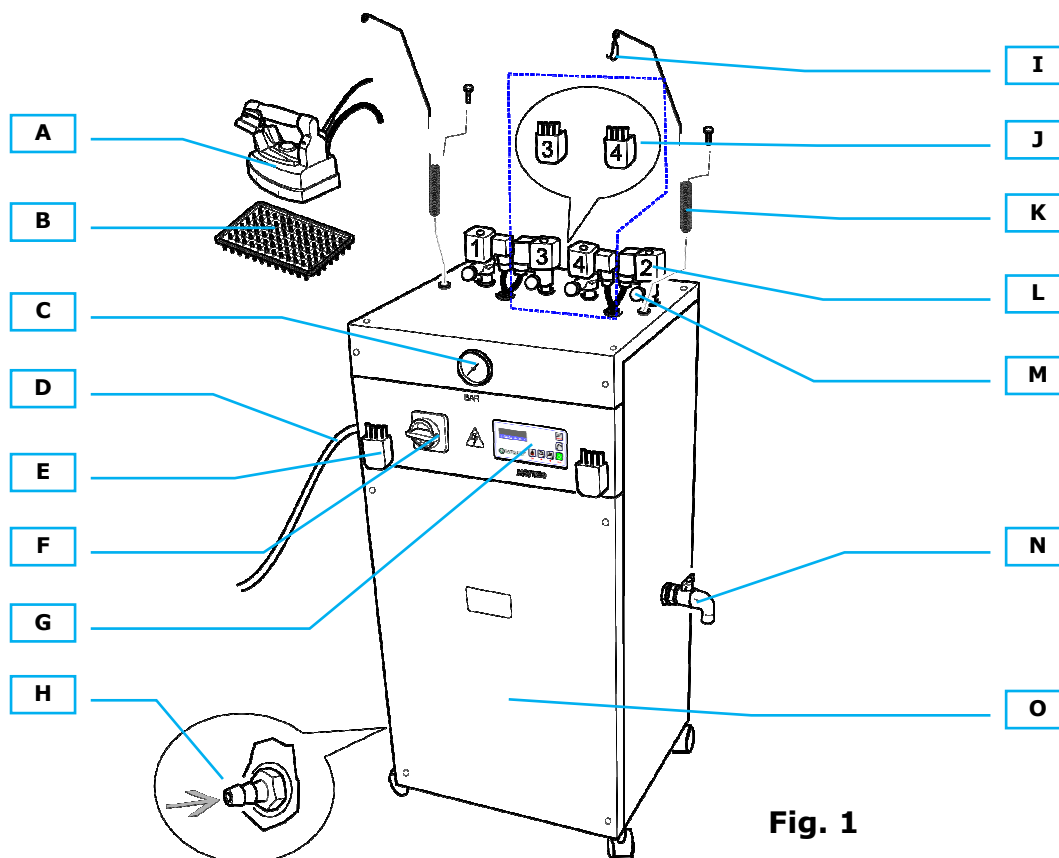
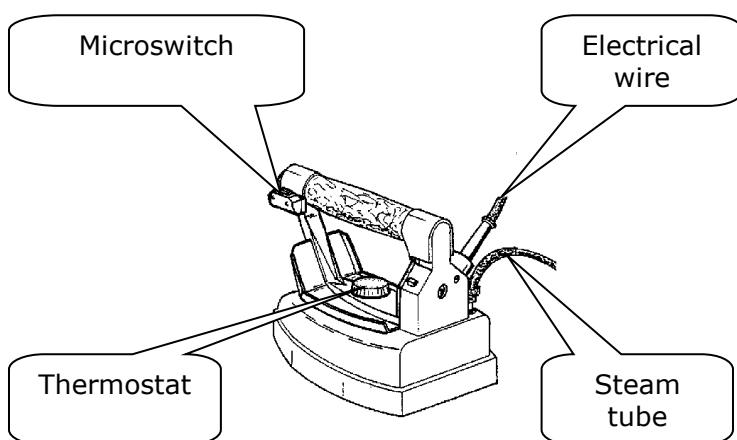

Fig. 1
Fig. 2
3. Fix the cable support (fig. 1-K) in the specific hole, connect the iron plug to the socket (fig. 1-E) and fix the steam hose to the solenoid valve with a hose clamp (fig. 1-L).
4. Fix the iron cables to the cable support hook (fig. 1-I), paying attention to avoid twisting.
5. Place the iron on the rubber iron rest (fig. 1-B).
For connection, check that there is a tap nearby and a rubber hose that resists the aqueduct pressure. The rubber hose must be inserted and fixed onto the "WATER INLET HOSE HOLDER" of the machine diameter 10 mm (fig. 1-H) by using two hose clamps.
2. Wait until the boiler light is fixed (not intermittent). Take the iron by the cork handle, point it towards the floor and press the micro-switch (fig. 2) 4 or 5 times, so that steam comes out. This procedure must be carried out in order to heat up the hose which takes steam to the iron and avoid water coming out of it. It is possible to adjust the steam flux by adjusting the solenoid valve knob (fig. 1-M).
1. Adjust the iron temperature (fig. 2). For dry ironing you can set the thermostat on various positions depending on the type of fabric you want to iron (refer to the label instructions). For steam ironing you must necessarily adjust the thermostat on the "cotton" or "linen" position.
2. To iron, run the iron on the garments and press the micro-switch (fig. 2) of the iron at intervals so that steam comes out.